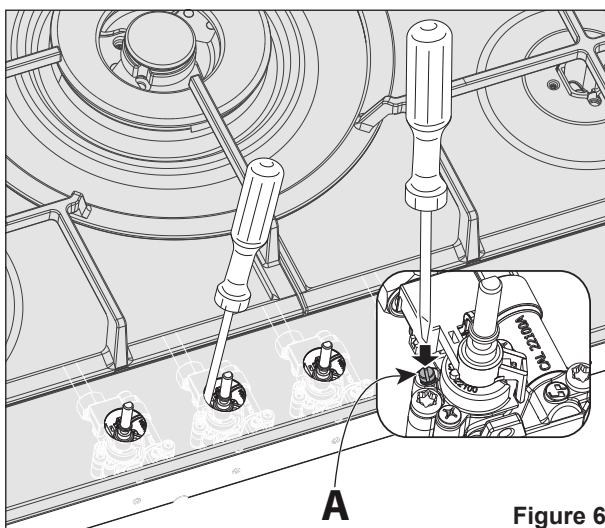

Figure 6
- Using a screwdriver turn screw “A” until the flame setting is correct (fig. 6).